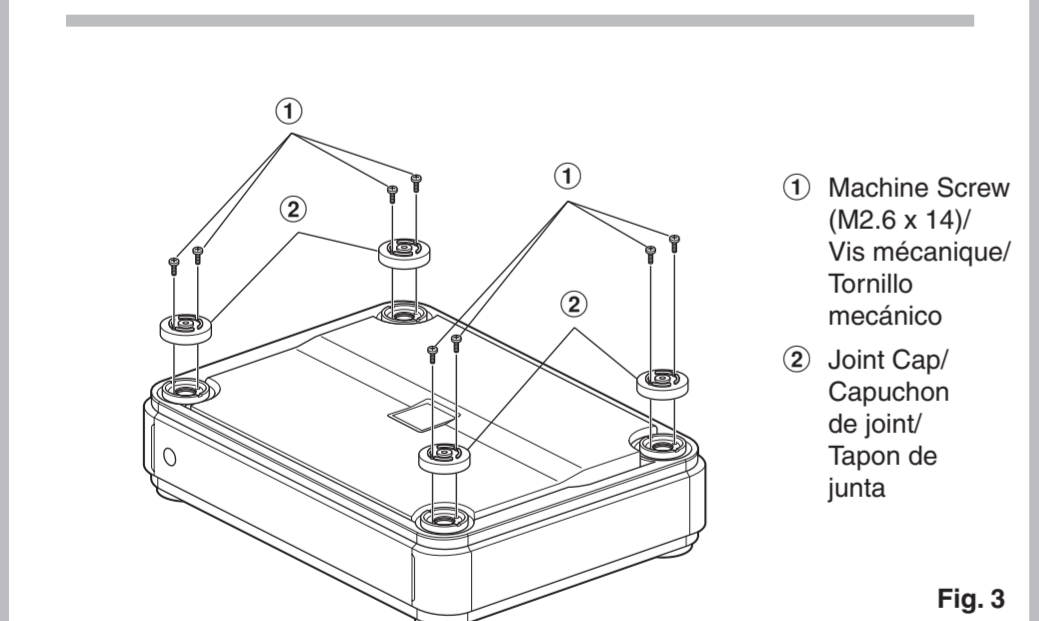

Fig. 3
- Attach the four joint caps in the four corners of the first unit with 2 machine screws (M2.6 x 14, supplied) per each cap. Refer to fig. 3.